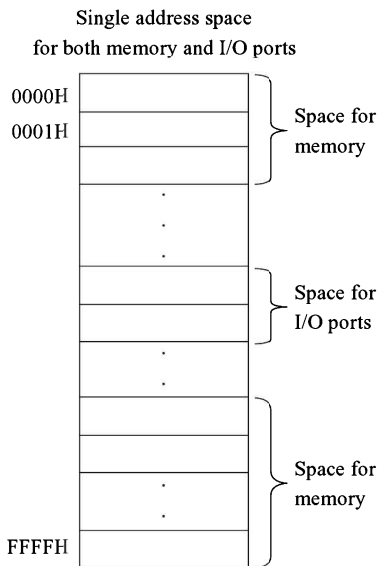

Fig. 12.7
2. The designer of a microprocessor is required to produce a chip design with minimum possible pins. That is the reason we find multiplexed address and data pins, AD_{7-0} . If I/O-mapped I/O facility is needed, then there must be a pin of the kind IO/M^* , to distinguish between I/O addressing and memory addressing. However, if it is decided by the designer of the processor chip that memory and I/O ports will be addressed in the same way, then there is no need of IO/M^* pin at all. In Motorola microprocessor chips, there is no IO/M^* pin because they use memory-mapped I/O ports. In Motorola 6800 there will be a single address space in which space allocation is made for memory and I/O ports, as shown in Fig. 12.7. The ports are always memory-mapped in Motorola 6800.